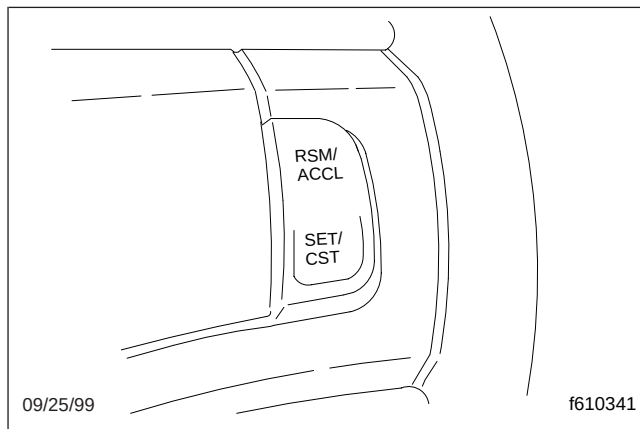

Fig. 2.22, Speed Control Switch
For the speed control to operate, the cruise control must be on. Once you have reached the desired speed, press the set/coast (SET/CST) switch located on the steering wheel. See Fig. 2.22. The vehicle will travel at the set speed until the brake pedal or clutch pedal is depressed, or until the cruise control OFF switch is pressed.
- Press and hold the resume/accelerate (RSM/ACCL) switch (Fig. 2.22) located on the steering wheel until the higher set speed is reached. Then release the switch.